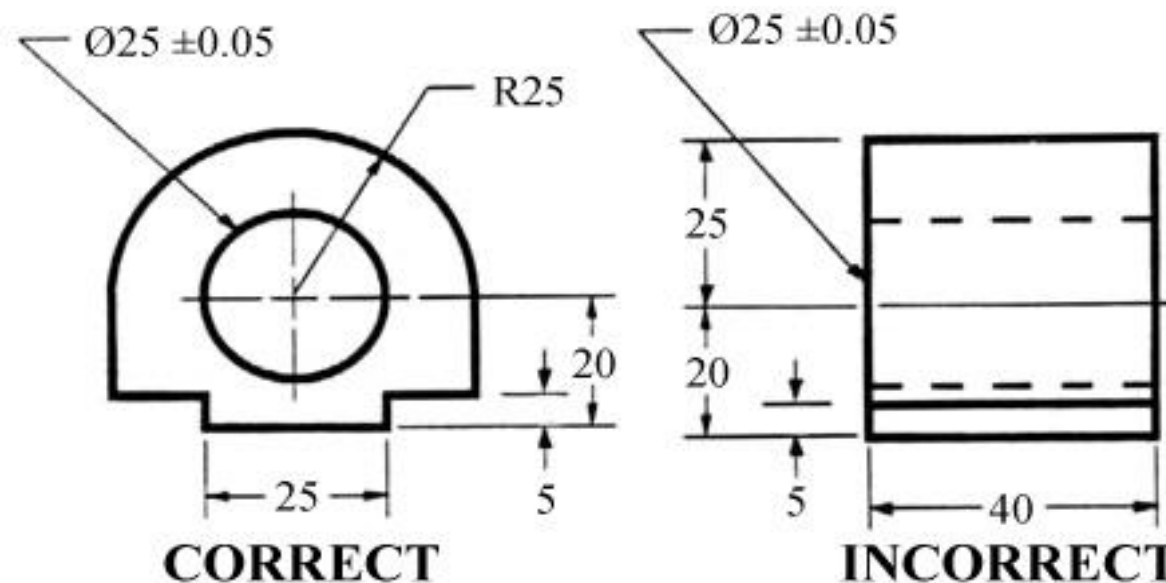

Figure 25 - Example of appropriate and inappropriate dimensioning
- The dimensions should be placed on the face that describes the feature most clearly. Examples of appropriate and inappropriate placing of dimensions are shown in figure 25.